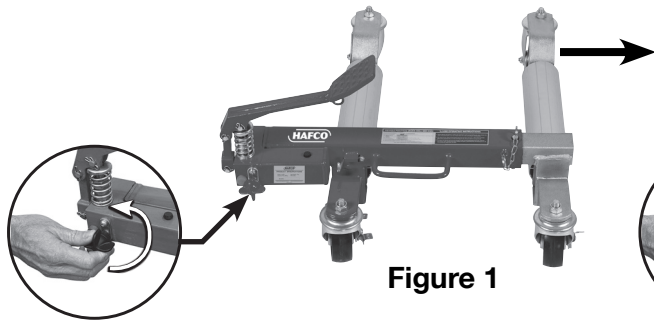

Figure 1
1. First expand the space between the Rollers (6). Turn the Release Valve (A17) counter clockwise then spread the Rollers (6) apart from each other. After Pulling the Rollers (6) apart turn the Release Valve (A17) all the way clockwise. Next slide the Position Jack around the tire (as shown in Figure 1 & 2).